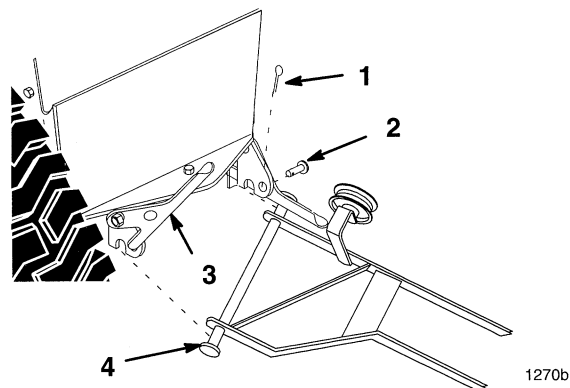

Figure 21
9. Remove hairpin cotters and clevis pins from latch levers (Fig. 21). Open latch levers and remove mounting rod.